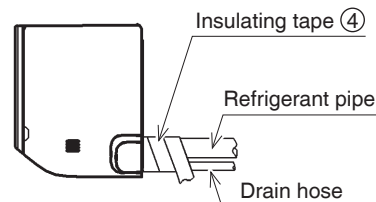

Fig. 12
- 1) Attach the drain hose to the underside of the refrigerant pipes and wrap the refrigerant pipes and drain hose together with an insulating tape ④. **(Refer to Fig. 12)**